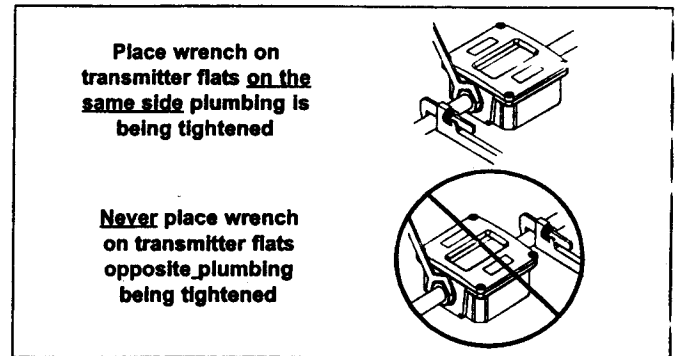

Figure 6. Installing Transmitter
5. Install unit in desired location. Use wrench on transmitter flats to hold the unit in place during installation. DO NOT TURN the transmitter using the wrench. See Figure 6.